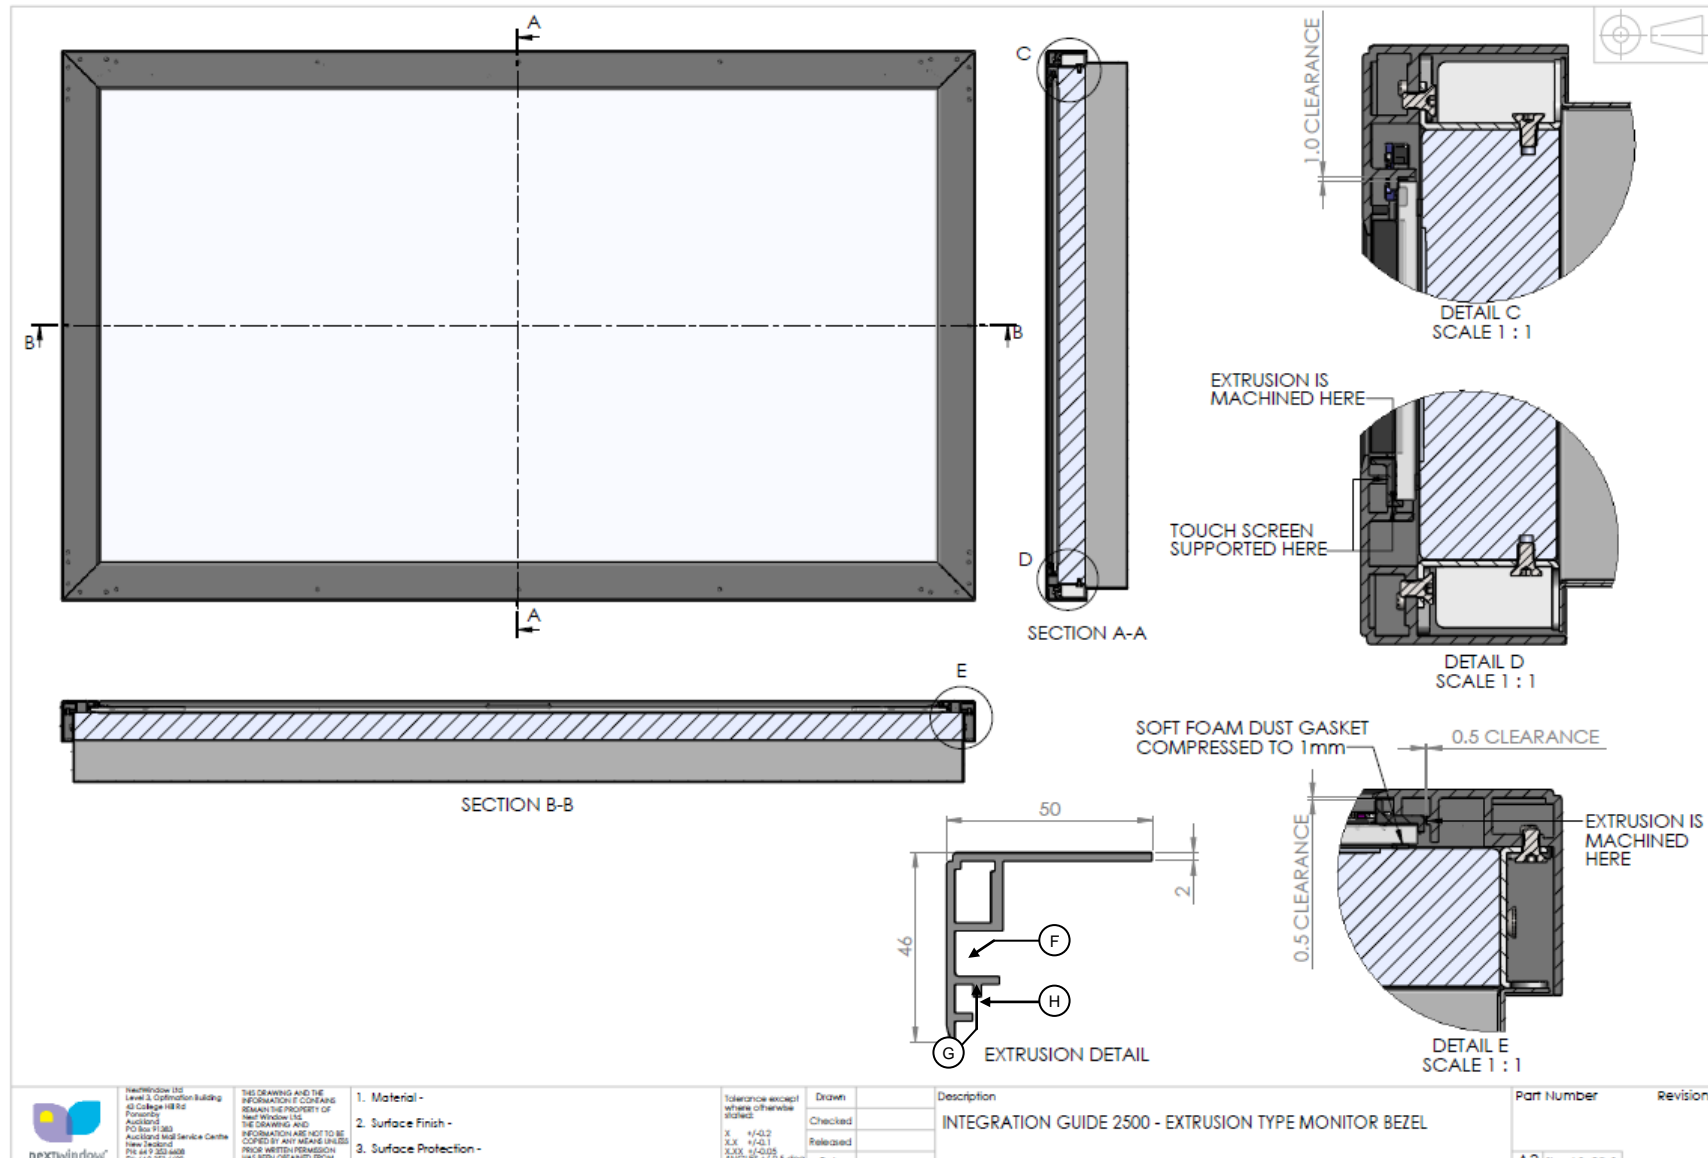
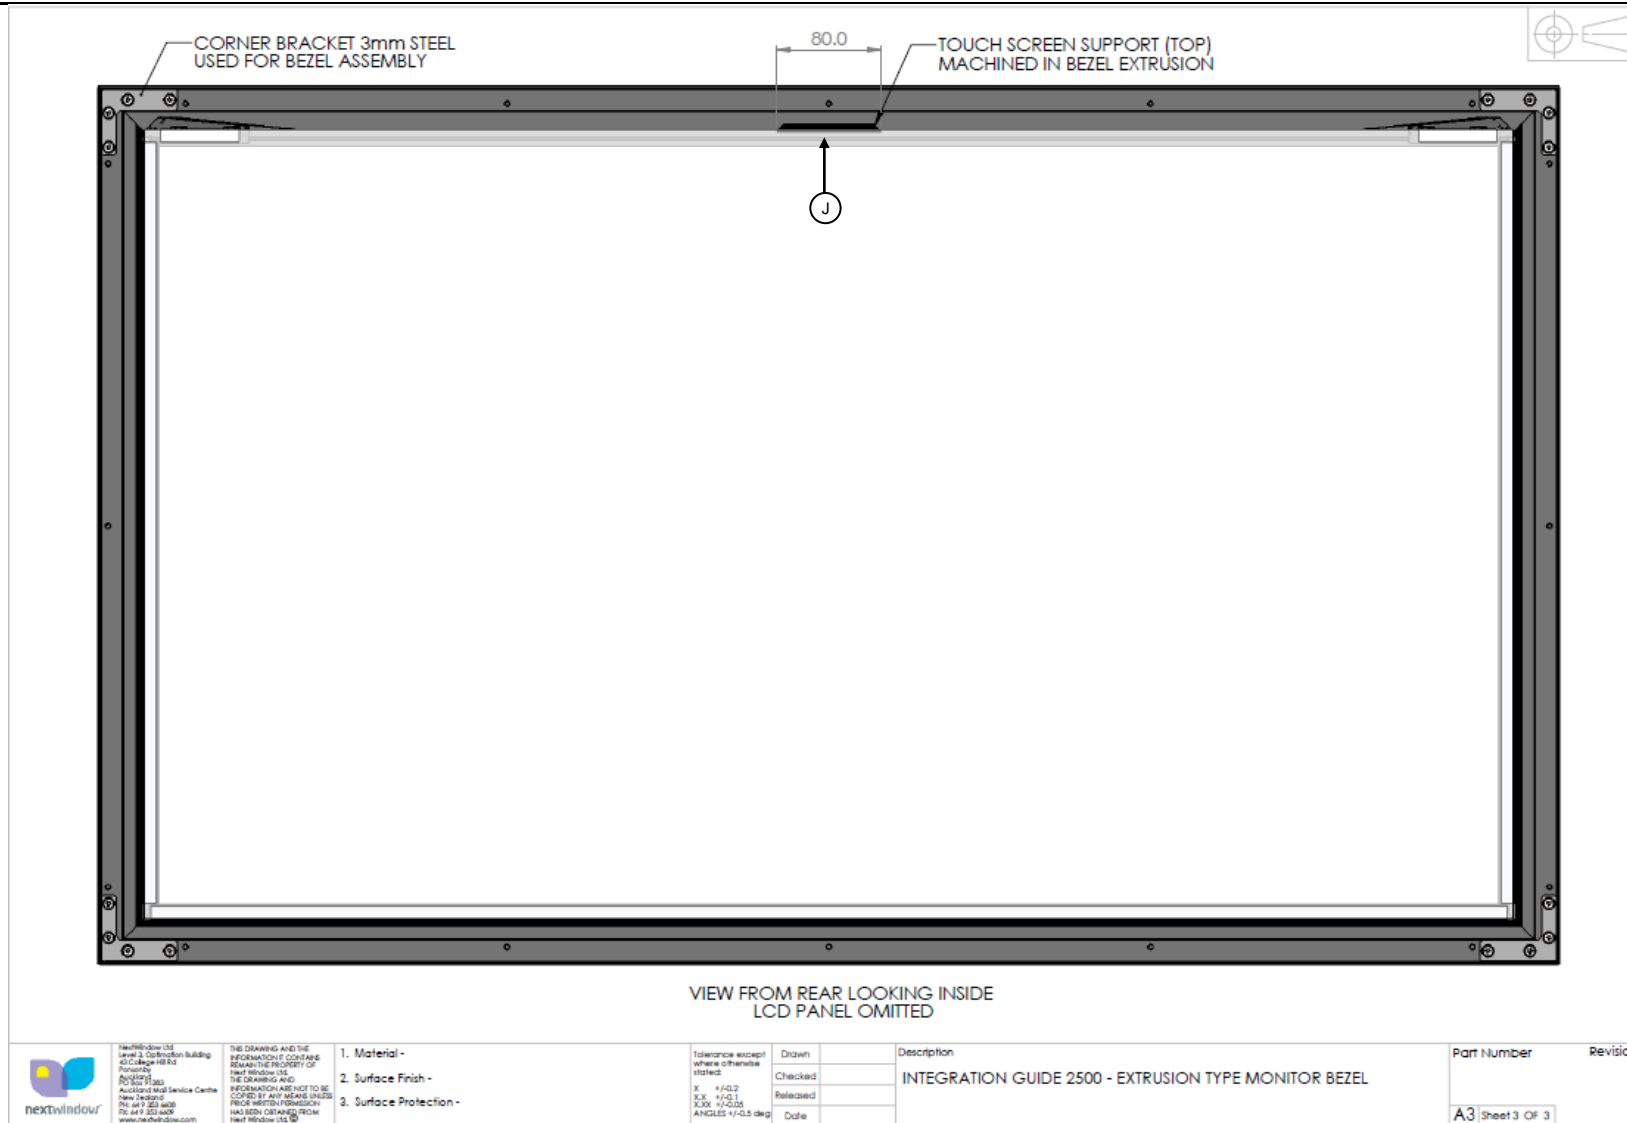

Figure 12: Detail of extrusion type front bezel
Figure 13: Rear view of extrusion type front bezel showing integrated 2500 touch screen
This design uses a common extrusion to manufacture the bezel. The extrusion has been machined for integration of the 2500 touch screen. A brief description of the extrusion profile and machining requirements illustrated in figure 12 are described below: Corresponding CAD files for the extrusion type bezel are available from Next Window on request.
- **Detail C:** Illustrates the bezel extrusion profile for top-of-glass touch screen support. In this design, the length of the extrusion is machined to remove profiles F, G and H (see extrusion detail on Figure 12) except for the region shown at position J in Figure 13, where 80mm of the extrusion profile is retained to prevent outwards bow at the top centre region of the glass.
- **Detail D:** When assembled, the lower retro support of the touch screen is supported by the bezel extrusion at point G (shown in Figure 12). In this design, profile G of the bezel extrusion is machined, removing 1.5mm along its full length to enable a 1.0mm clearance gap between the top of the glass and the bezel extrusion (illustrated in Detail C) when the touch screen is assembled into the bezel.